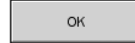

Fig. 4-5 Open Cover
5. Open the sample chamber cover by pressing down on the red latch (Fig. 4-5).